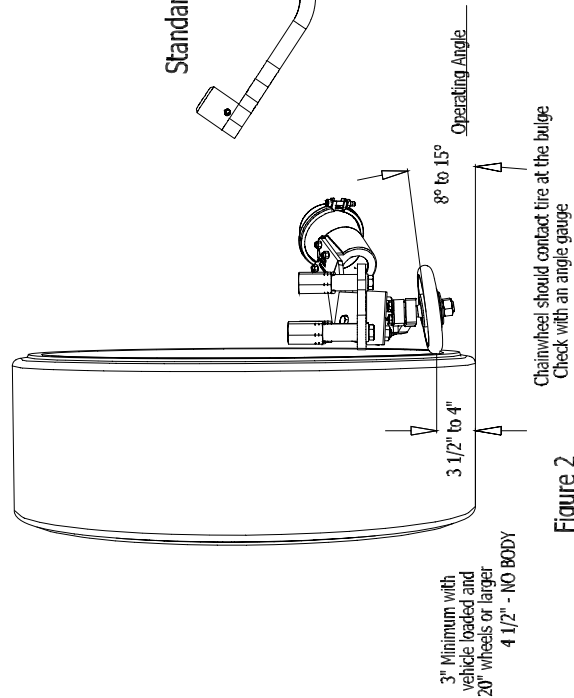

Figure 2
- c. **OPERATING ANGLE** of chainwheel should be **8** to **15** degrees (ref Fig. 2)
- d. Vertical distance from the ground to the chainwheel contact point should be approx. 3 ½" to 4" with the vehicle unloaded (chassis with no body should be 4 ½". 3" min with the vehicle loaded) (ref Fig 2).